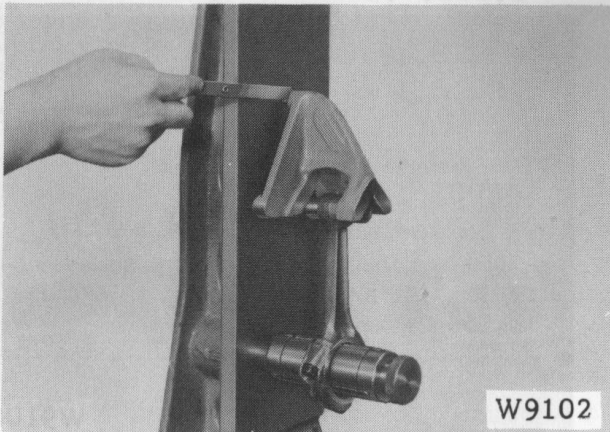

Fig.2-55 Connecting Rod Alignment
- Check the connecting rod alignment for bend and twist with a Connecting Rod Aligner as illustrated in figure 2-55.